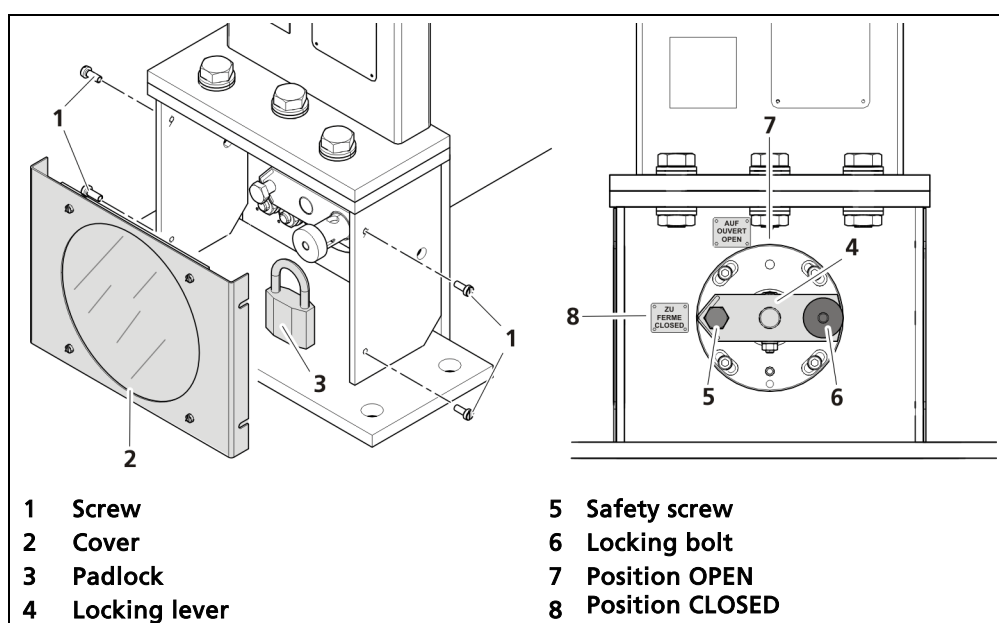

Fig. 16 Usage rod source shield
1. Loosen screws (Fig. 16, item 1) and remove the Cover (Fig. 16, item 2).
2. If applicable, remove the padlock (Fig. 16, item 3) and the safety screw (Fig. 16, item 5).
3. Pull the locking bolt (Fig. 16, item 6) and turn the locking lever (Fig. 16, item 4) to the required position (OPEN / CLOSED).
4. Lock the locking bolt (Fig. 16, item 6) into place in the new position.